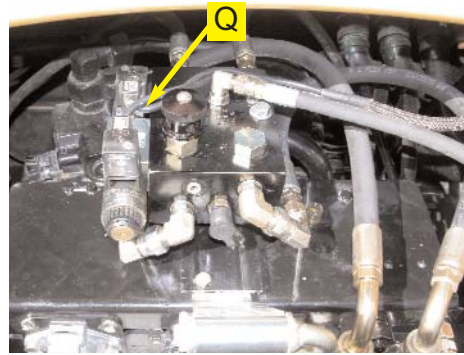

Figure 7a. Valve cable installed at Automated Steering Block.
- a. Route the valve control cable (**Q**) from the Automated Steering Block and into the cab through the access panel by the rear window. (Figure 7a and 7b.)